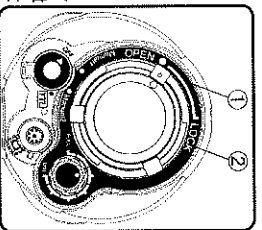

Fig. 1
1. To remove battery cap, turn part ① counterclockwise to the OPEN position and pull the cap ② straight out. (Fig. 1)